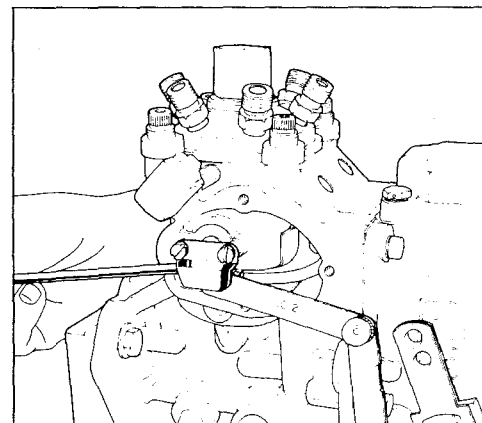
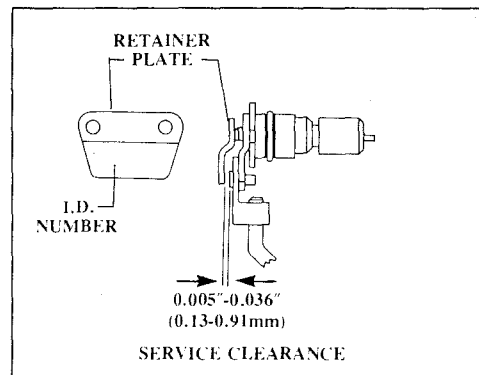
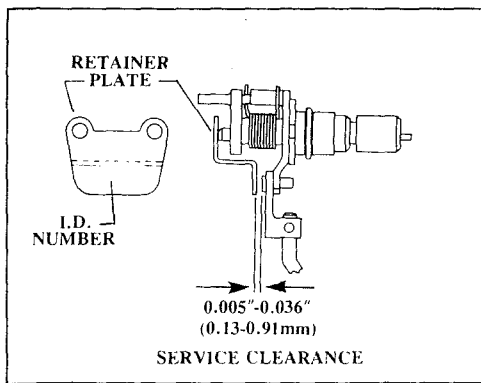

FIGURE 1-69
FIGURE 1-70
FIGURE 1-71
- (24) Hold the control unit shaft against the control unit retaining plate by applying force with a screwdriver behind the control unit lever arm. Then, measure the clearance between the control rod link and the control unit retaining plate. (Refer to Fig. 1-69). Also, refer to Fig. 1-70 for standard control unit arrangement and Fig. 1-71 for electric shut-off control unit feature.